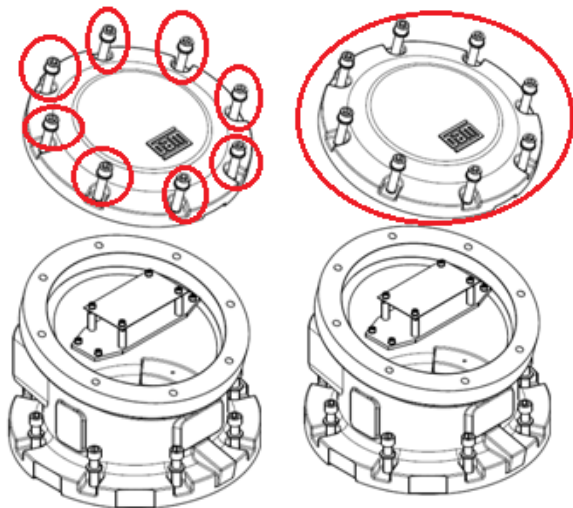

Figure 8-6 – Disassembly of terminal box cover
1. Loose the below highlighted fixing bolts (See Figure 8-6 left), and set safely aside for later use.
2. Remove the terminal box cover (See Figure 8-6 right), and set safely aside for later use.